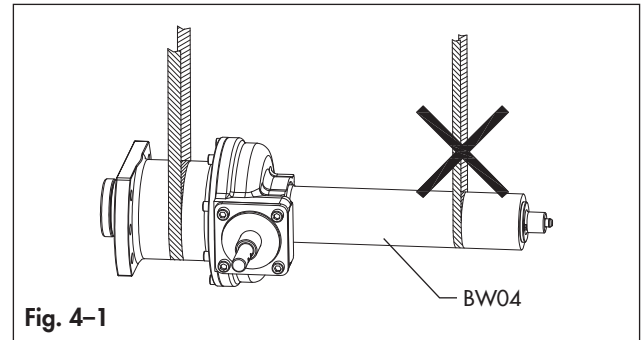

Fig. 4-1
- Do not attach any sling to the cover (BW04). (Fig. 4-1)
- Remove the handwheel before lifting the bevel gear as per Fig. 4-1.